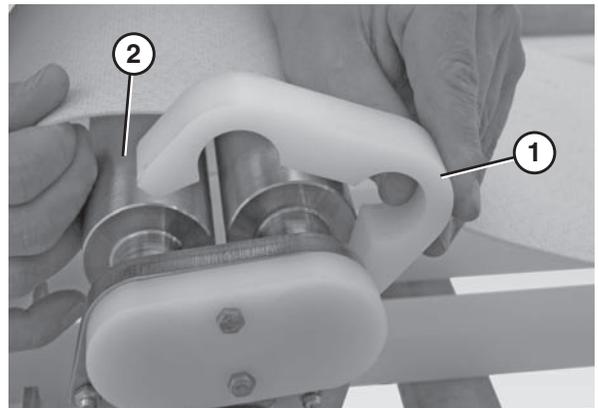

Figure 86
1. Slide the pinch guard blocks (**Figure 86, item 1**) off the nose bar spindles (**Figure 86, item 2**).